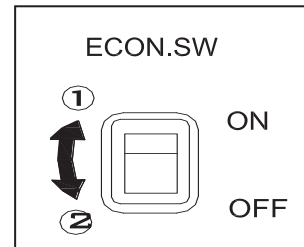

Fig. 4-3
3) ECONOMY CONTROL SWITCH (See Fig.4-3)